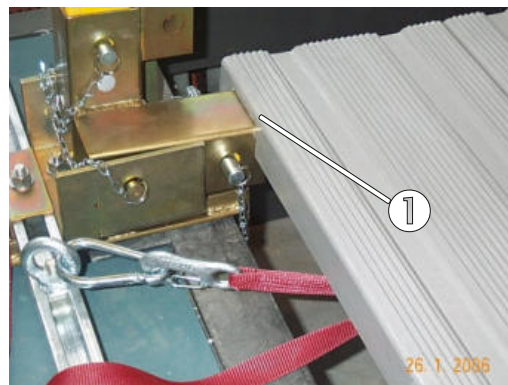

Fig. 36: Correct position of the final floor panel
The final panel must lie flush with the hinge of the threshold bracket on the horizontal side of the triangle (fig. 36/pos. 1).